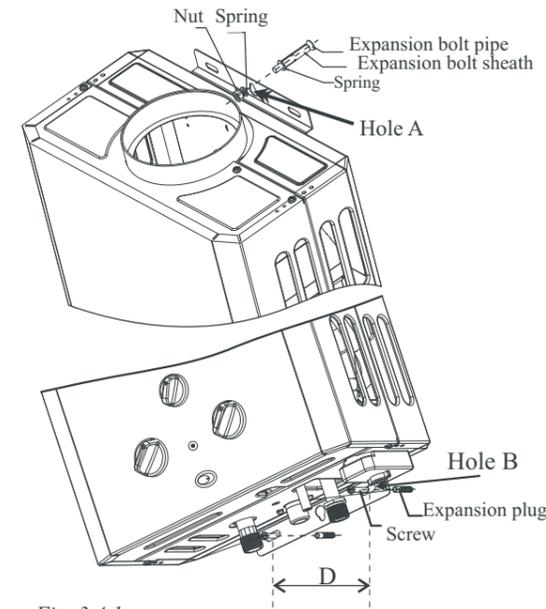

Fig. 3.4.1
Mounting Type A Mounting Type B Fig 3.4.1.1
D. Fig. 3.4.1 shows the mounting Type A, the distance D is as follows:
B. Secure two screws on the supporting boards/wood blockings, penetrating through the fire rated gypsum boards. Do not tighten them. Verify the mounting type of your gas heater first. For Mounting Type A, the distance between the screws is shown as "Size D" on table 3.4.1; for Mounting Type B, the distance between the screws is shown as "Size E" and "Size F" on Table 3.4.2. C. Hang heater on the screws, and tighten the screws. See Figs. 3.4.1 and 3.4.2. Please note that the fire rated gypsum boards are not shown on the above figures for graphic clarity purposes.